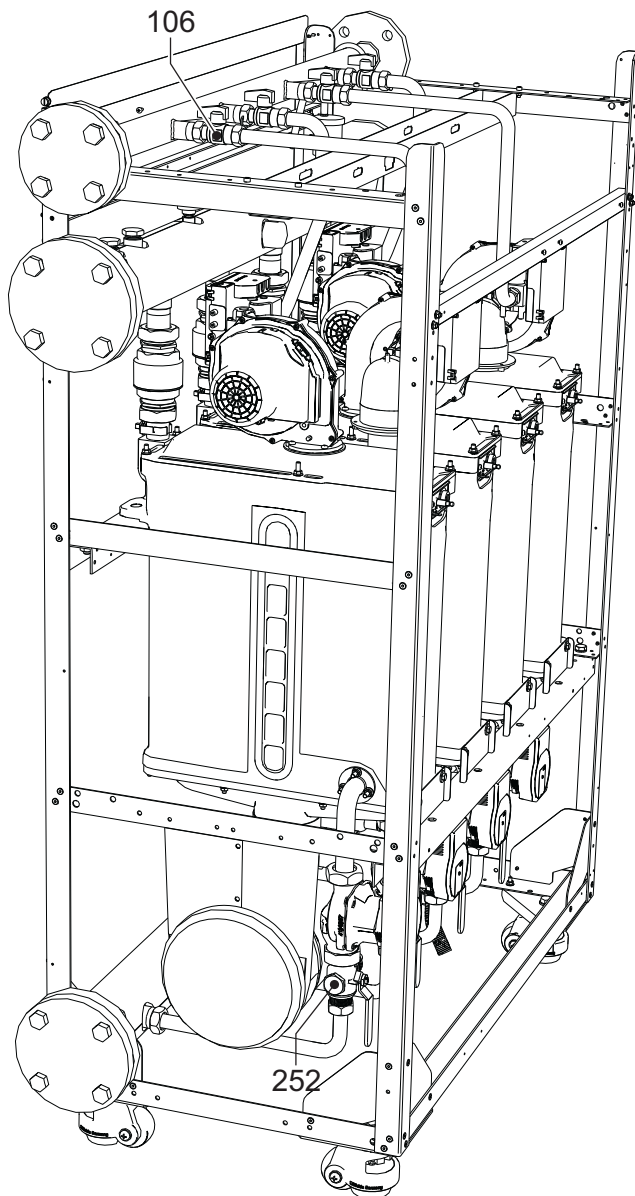

fig. 91
Disconnect the unit from the power supply and close the gas cock (ref. 106 - fig. 91) of the module undergoing maintenance. If necessary, drain the hydraulic circuit by connecting the hose connector pre-installed in the first module, using a suitable rubber hose (not supplied), to a drain or a collection manifold, on the side outlet of the three-way cock (ref. PR 1505PR 150 - fig. 91) located on the module return. Close the three-way cock (ref. PR 1505PR 150) on the return in order to drain.